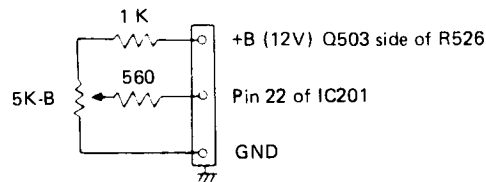

Fig. 1 AGC VR
- (1) Feed in a non-modulated 45.75 MHz/15mVrms signal to the IF IN terminal of the tuner.
- (2) Connect the AGC VR to pin 22 of IC201 as shown in Fig. 1.